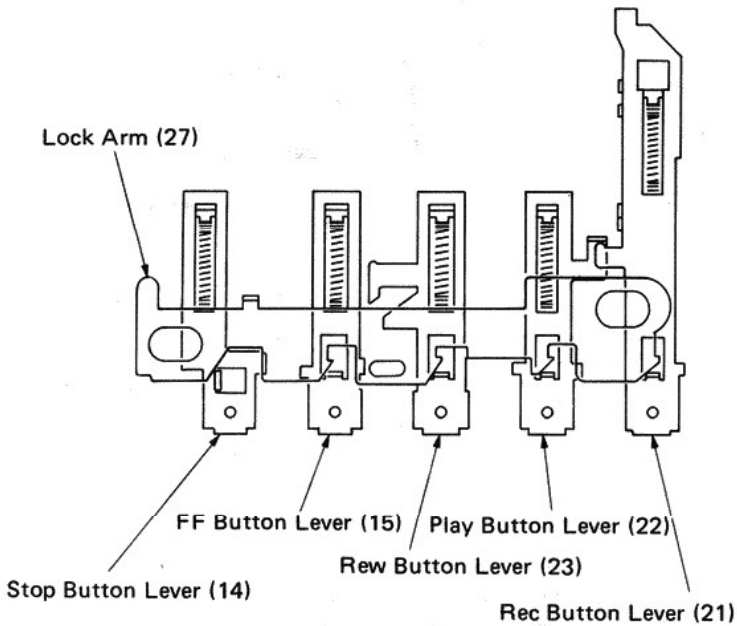

Fig. 12
- 1 Fig. 12 shows the behavior of each button lever and the lock arm (27) in the STOP mode.